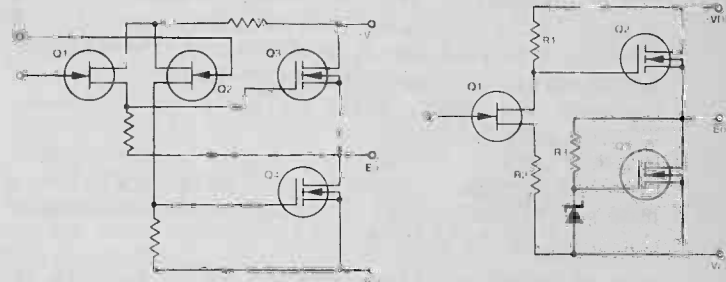
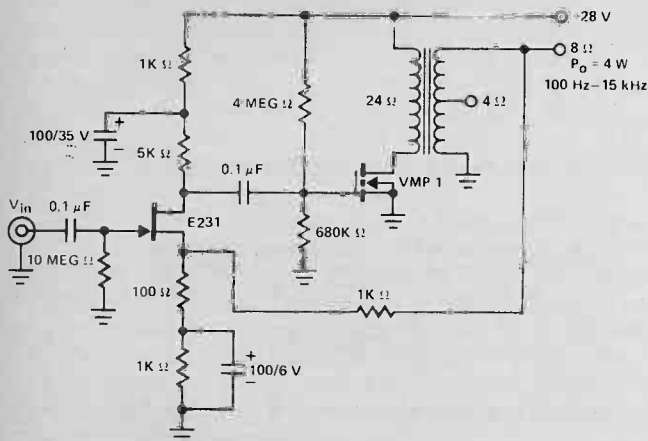
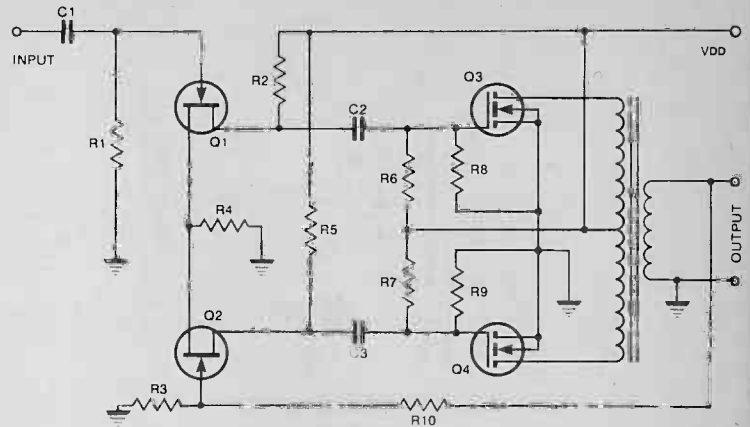

Fig. 1. Series output arrangement and Fig. 2 single-ended output with current source.
Fig. 11. Simple single-ended transformer-coupled audio power amplifier (Siliconix).
Fig. 12. Transformer-coupled output.
In general these devices may use any of the types of output circuits in general use with valves and bipolar, including transformer coupled (Fig. 12) where the benefits of the absence of charge carrier storage become apparent in the absence of severe ringing at the crossover point, conventional series output such as in Fig. 1 which is a straightforward transformation from a bi-polar circuit (1), and single-ended output with current source, also transposed from an excellent bi-polar circuit (2) (Fig. 2).
A single ended and push-pull transformer coupled amplifier for audio applications are shown in Figs. 11 and 12. Both designs utilise the biasing system described in Fig. 4. A load-line drawn on the output characteristic will show the optimum load to be 24 ohms. In Fig. 11 gate drive is supplied by a single junction FET, and voltage feedback is taken from the output transformer secondary and series fed to the source of the input device. Distortion is under 2 per cent at full output (try to get *that* with a single ended valve or bi-polar) and could probably be reduced even further by adopting a source follower output stage.
A push-pull version of Fig. 11 is shown in Fig. 12 using a differential input to provide phase splitting, drive, and a feedback point. Although the transformer winding ratio implies the use of a low impedance loudspeaker, a step-up ratio could be used for direct coupling to an electrostatic speaker, a balanced transmission line (both with some modification of the feedback circuit) an unbalanced transmission line, or a 70 volt speaker distribution line.